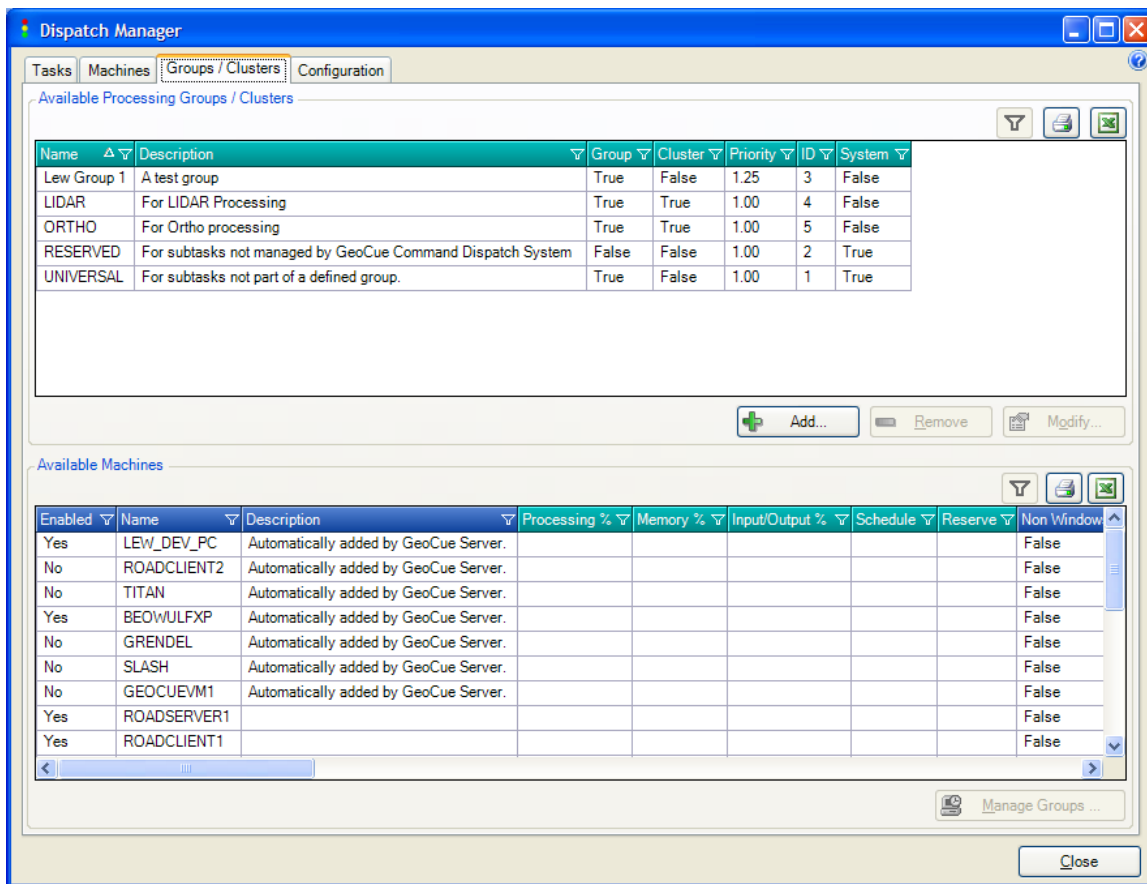

Figure 7-2: The Groups/Clouds tab of Dispatch Manager
- Processing Groups are created via the Groups/Clouds tab of the Dispatch Manager (Figure 7-2).